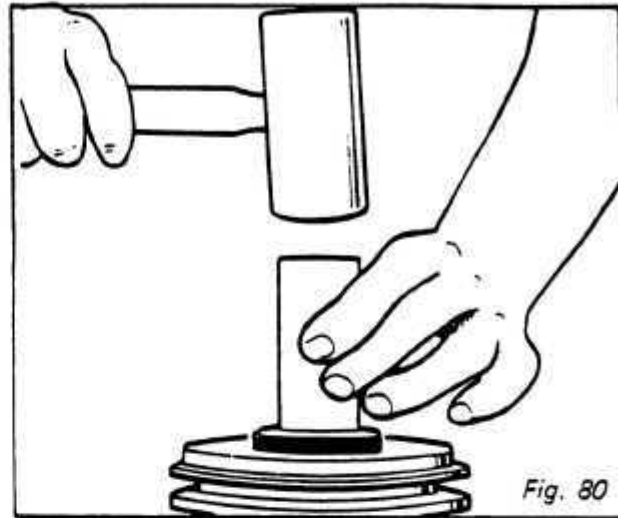

Fig. 80
- With a hammer, tap the end of the driver while guiding the rotor to prevent binding. Tap until the rotor bottoms against the compressor front housing hub. Listen for a distinct change of sound during the tapping process. *Fig. 80*